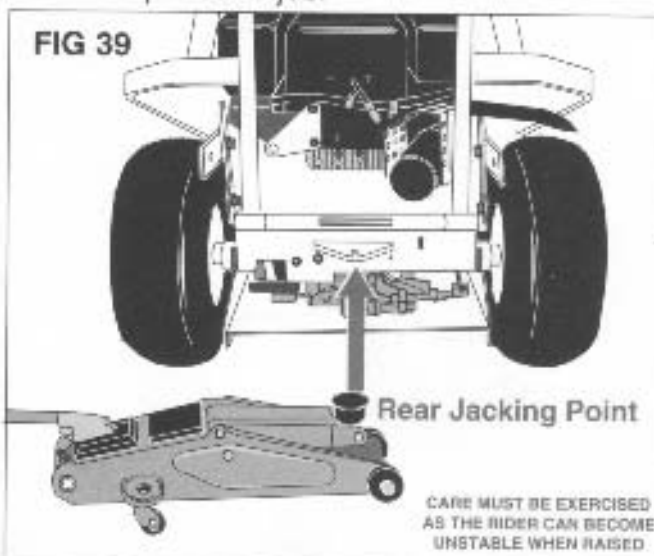

FIG 39
- 3/ Place the jack under the Tow Bracket (see fig 39) and raise until the wheel is off the ground.